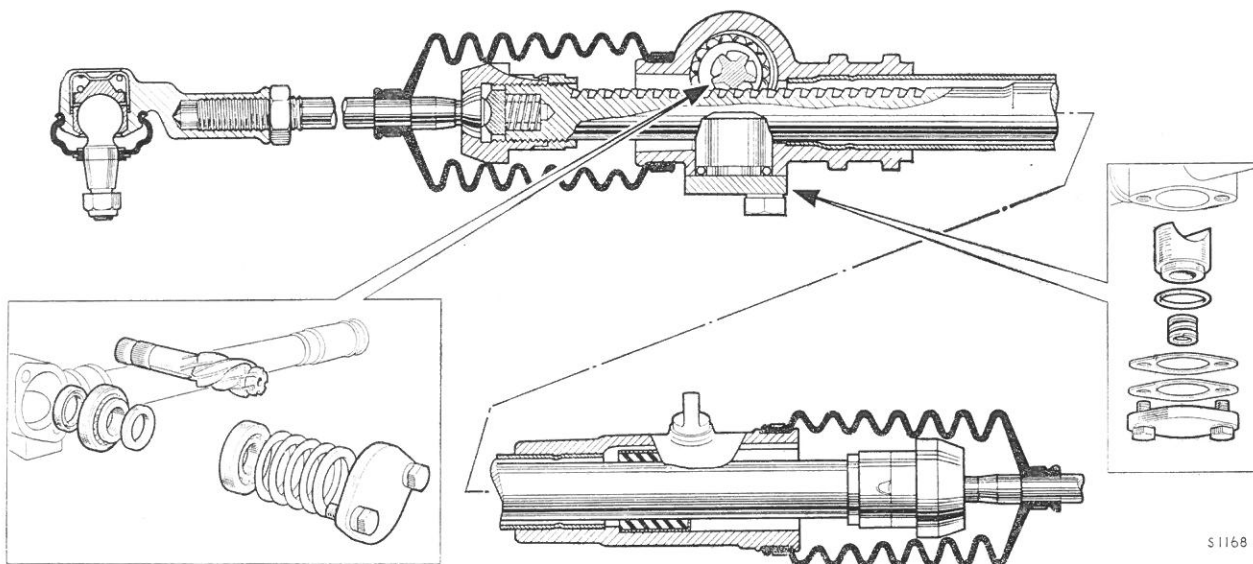

Fig. J.3
- (26) *Pinion adjustment (early models).* Refit the cover without the shims, but do not over-tighten the screws. Measure the gap between the cover and the housing. Remove the cover and add shims to the thickness of the measurement minus .002 in. (.05 mm.). Refit the cover with jointing compound.
- (27) *Pinion adjustment (1968 models).* Refit the pinion and bearings as shown in Fig. J.3. Add sufficient shims together with the spacer washer to provide a clearance of approximately .010 in. (.25 mm.) between the rack housing and the cover plate. Fit and lightly tighten the cover plate. Take a feeler gauge measurement of the clearance (A) and reduce the shimming by the measurement taken, less .002 to .005 in. (.05 to .13 mm.), to give the required pre-load.
- (28) Refers to item (20). Screw the ball housing locking ring onto the rack end as far as it will go and refit the lock washer. On models not fitted with a lock washer, fit a new locking ring. Refit the seat spring, seat, tie-rod and ball housing, and tighten up until the tie-rod is pinched. Slacken the housing one-eighth of a turn and tighten the locking ring to the recommended torque. Punch the lock washer into the slots of the housing and locking ring. If no lock washer is fitted, punch the lips of the locking ring into the slots of the ball housing and rack.
- (29) *Damper adjustment (1st type).* Refit the yoke with the disc springs but without the packing shims.